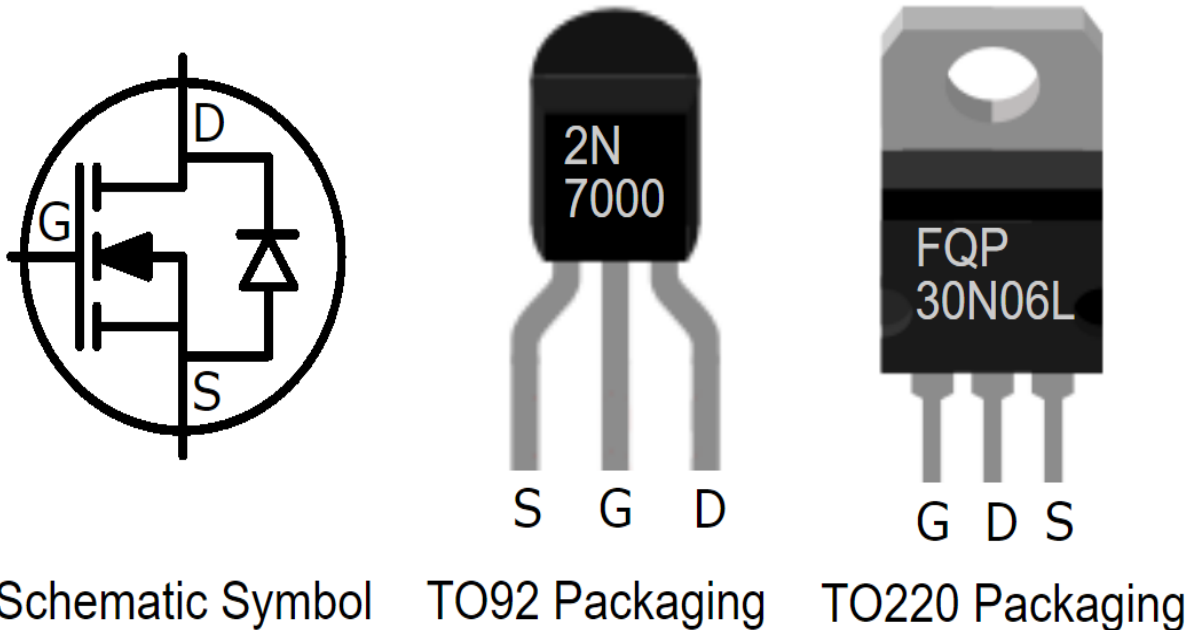

Figure 7.8 – N-Channel Enhancement MOSFET symbol and common package styles
The following exercise will be using a 2N7000, an N-Channel Enhancement Mode MOSFET, as illustrated in *Figure 7.8*. The leg names are **Source**, **Gate**, and **Drain**. Two different packaging styles are also illustrated, the TO92 and TO220. Notice that the arrangement of the Source, Gate, and Drain legs on the two styles are different:
1. Place the MOSFET into your breadboard, taking care to orientate the component the correct way around regarding the Source, Gate, and Drain legs. Our example layout assumes a 2N7000 MOSFET. Please see *Figure 7.8* if you need help to identify the legs.
In *Figure 7.8*, we also have an illustration of an FQP30N06L. This is a Power N-Channel Enhancement Mode MOSFET capable of driving high amperage loads. It has the following specifications in its datasheet: